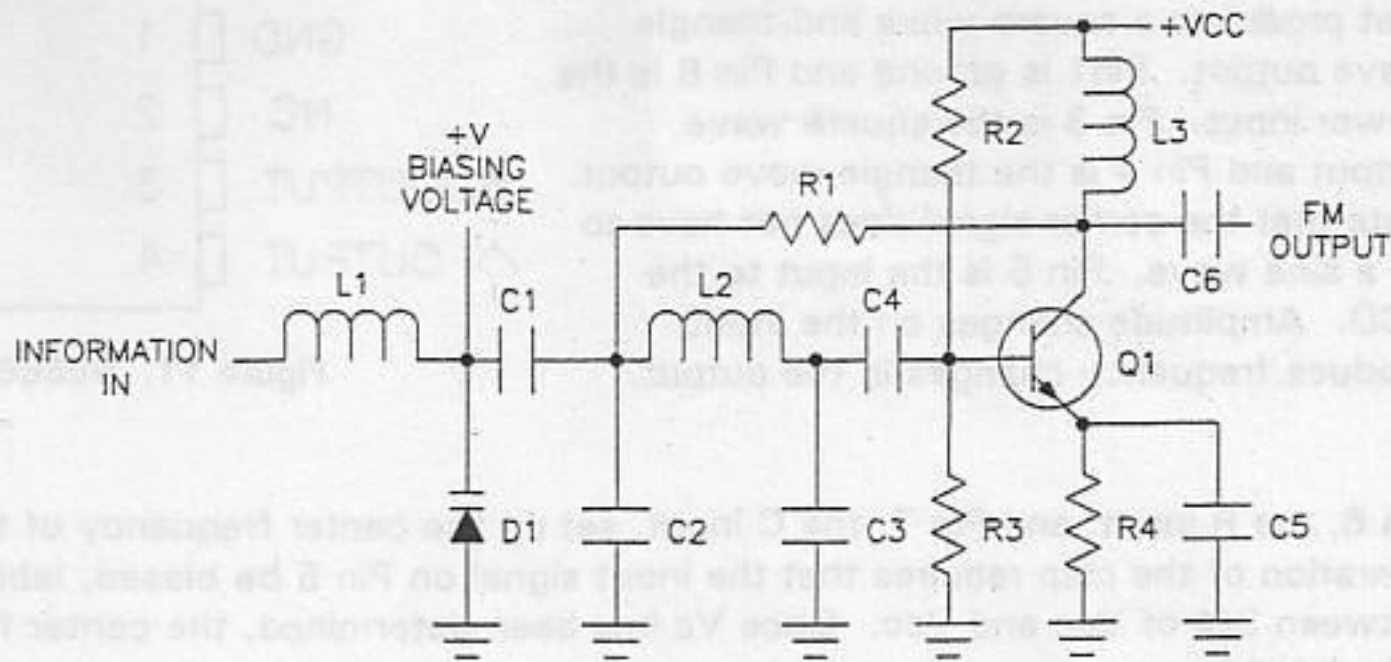

Figure 9. Varactor (VCO) Modulator Circuit
A varactor modulator, or VCO modulator, is shown in Figure 9. The circuit is nothing more than an oscillator which has its frequency determining circuit variable by means of a varactor diode, D1. Note the symbol used for a varactor diode.
The varactor modulator in Figure 9 is made up of discrete components and is a basic circuit. Additional components are normally used to improve the circuit performance but was not shown to simplify circuit description.
- _____ 2. Refer to Figure 9. How is the frequency of the oscillator varied?